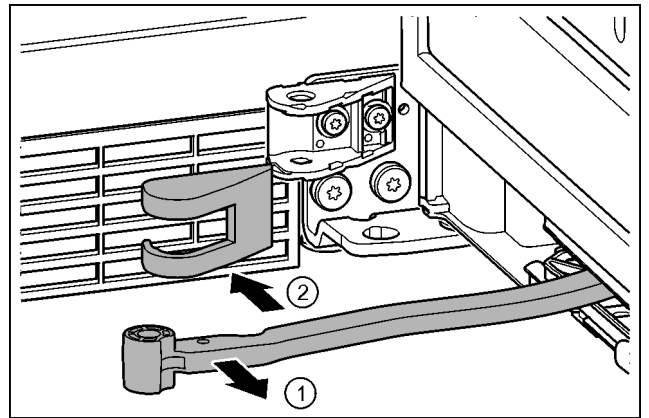

Fig. 20
- ▶ Turn the hinge in the direction of the door. Fig. 20 (1)
- ▶ Remove the bearing bracket cover. Fig. 20 (2)